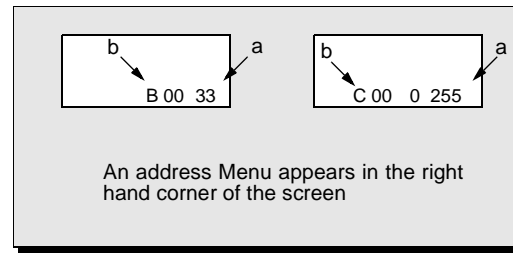

Figure 14. **Service Mode Menu Adjustments.**
Note: *Only the applicable settings for the Receiver serviced will be available (See a in Fig. 14).*
1. Press **Channel Up/Down** on the **Remote Control** to select one of the available Service Adjustments (a in Fig. 14).
Note: Write Down the original value set (b in Fig. 14) for each address before modifying anything. It is easy to erroneously adjust the wrong item.
2. Press **Volume Up/Down** on the **Remote Control** to adjust the level of the selected Service Adjustment (b in Fig. 14).